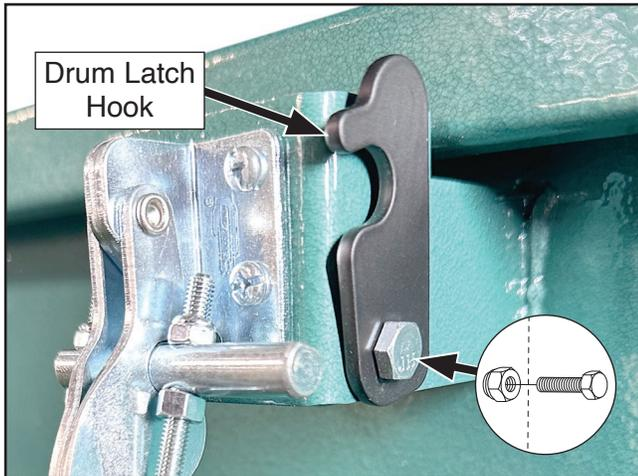

Figure 50. Drum latch hook attached to drum assembly.
39. Attach (1) drum latch hook to front of collection drum with (1) 1/4"-20 x 5/8" hex bolt and (1) 1/4"-20 lock nut (see **Figure 50**). Do not over-tighten so drum latch hook can move freely.